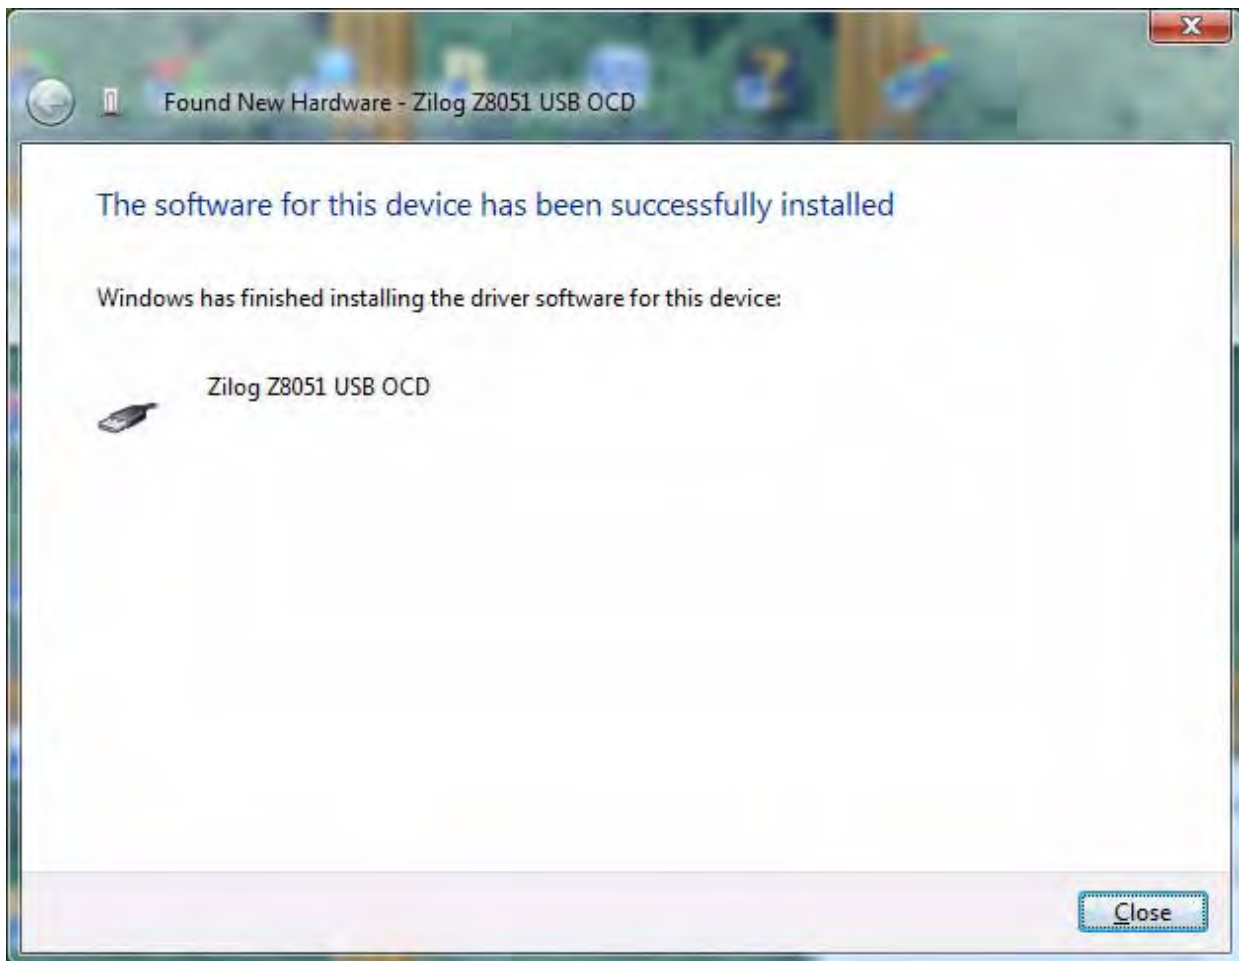

Figure 8. Successfully Installed Dialog, Windows Vista
5. When the installation is complete, the screen shown in Figure 8 will appear. Click **Close** to exit the OCD driver installation.
- **Note:** On some installations, the Found New Hardware screen shown in Figure 8 may also display the text string, Zilog Z8051 USB OCD - No Firmware. This occurrence is normal and can be disregarded.